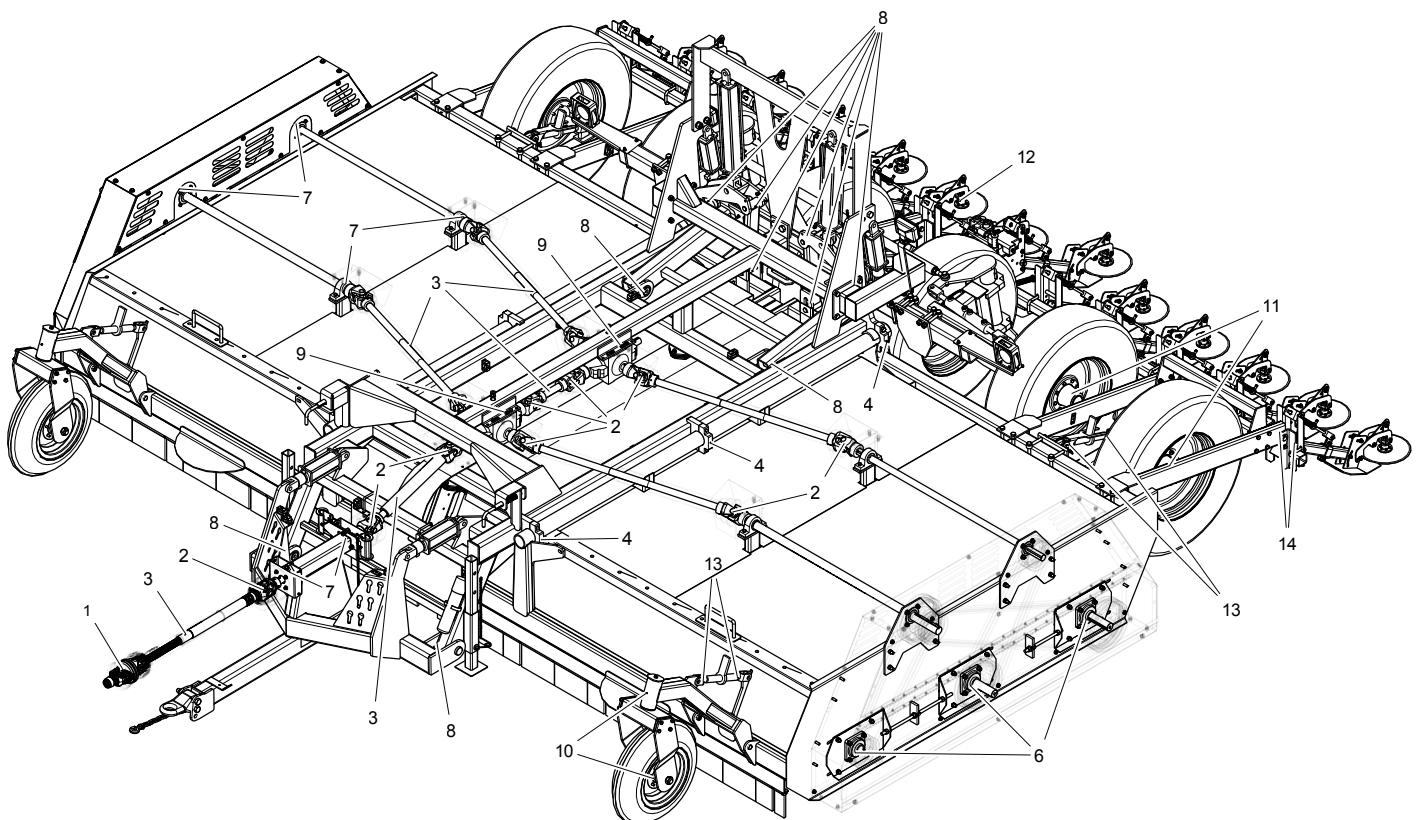

Figure 29. Lubrication Points
6. Grease all rotor bearings (Figure 29, 30).
13. Grease gauge wheel jack screws (Figure 29, 32).